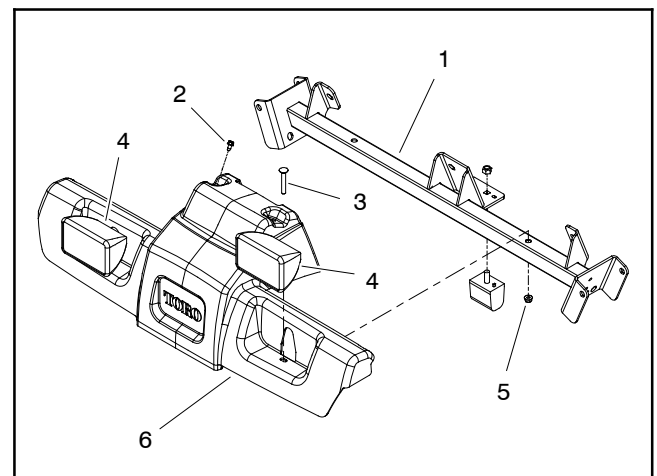
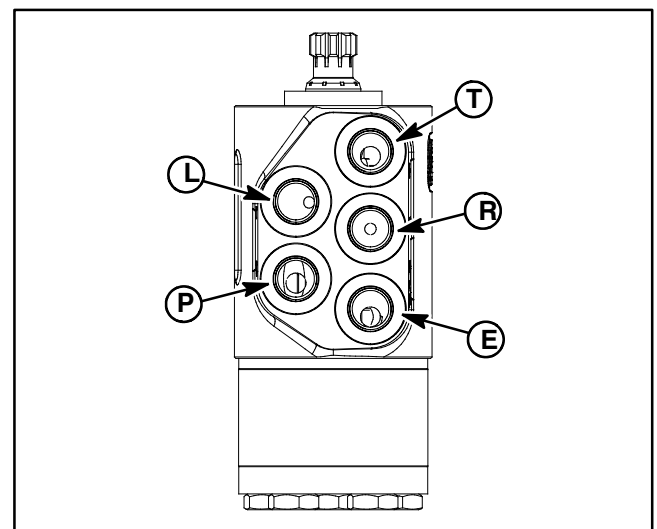

Figure 98
Figure 99
2. Remove fasteners that secure platform shroud to front of machine (Fig. 98). Remove shroud from machine to allow access to steering control valve.
3. Remove four (4) flange head screws that secure column brace (item 12) to frame platform. Remove brace from machine to allow access to steering column fasteners.
7. Label all hydraulic connections for assembly purposes. Note port designations on steering control valve (Fig. 99).
3. Slide steering control valve shaft into steering column universal joint. Position control valve with ports toward front of machine. Secure steering control valve to steering column with four (4) socket head screws. Torque screws in a criss-cross pattern from **7 to 10 ft-lb (9.5 to 13.5 N-m)**.
4. Position steering column assembly to machine. Secure steering column in place with four (4) socket head screws and flange nuts.
7. Position steering column brace (item 12) to machine and secure with four (4) flange head screws.
9. Position platform shroud in place and secure with removed fasteners (Fig. 98).